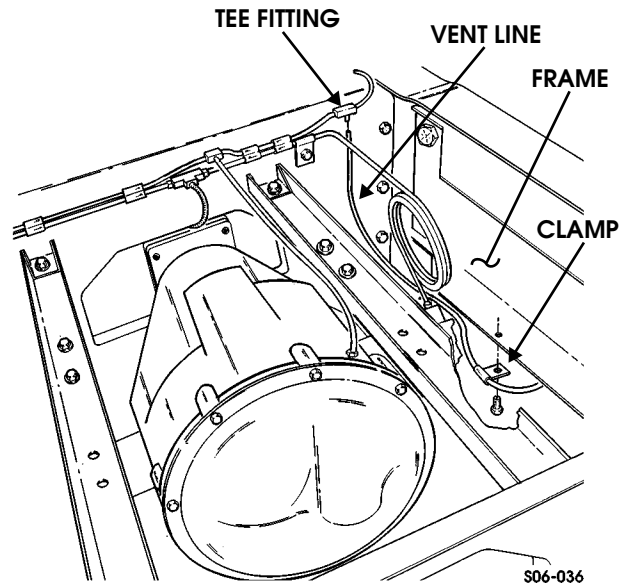

Figure 9-50: Vent Line
5. Remove bolt, clamp, and vent line from frame (Figure 9-50).
1. Secure vent line to frame with clamp and bolt (Figure 9-50).